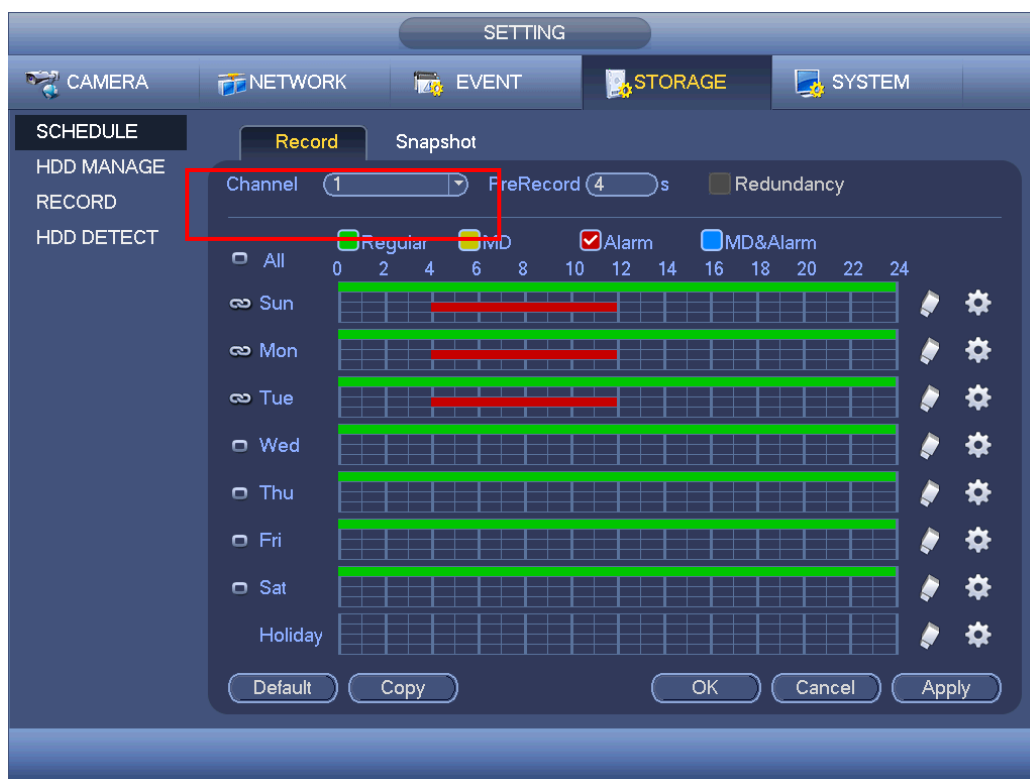

Figure 4-146
- In main menu, from Setting->Camera->Encode->Schedule interface, please enable snapshot function. See interface on the right of Figure 4-146.